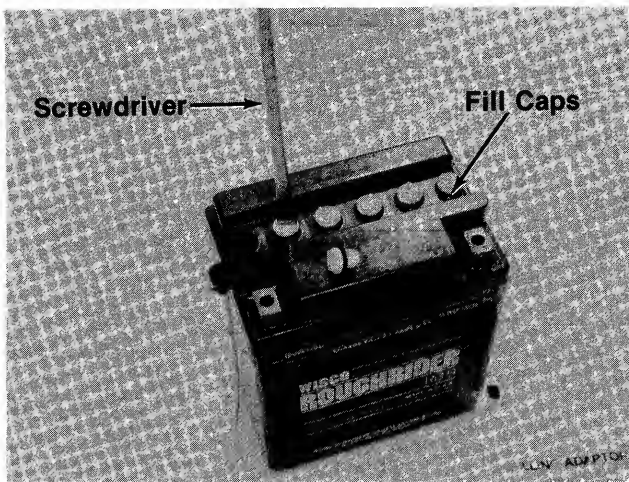

FIGURE 9.
4. Remove the six fill caps from the top of the battery. A screwdriver will make it easier. See figure 9.